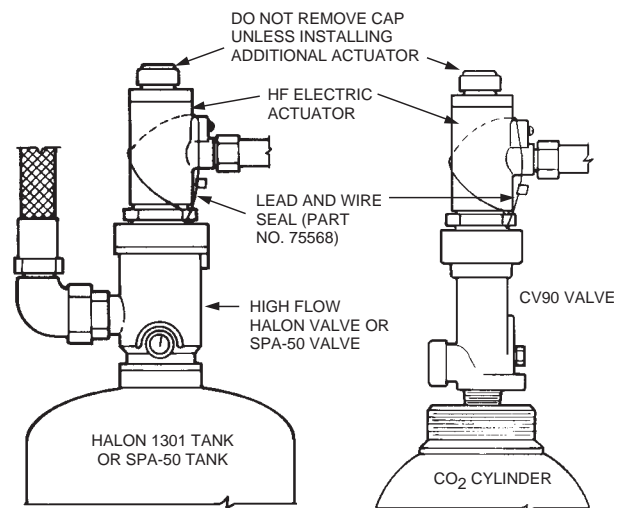

FIGURE 11
3. Thread the HF electric actuator onto top threads of Halon valve, CV90 CO₂ valve, or SPA-50 Dry Chemical Valve. (Do not exceed 10 ft. lb. (13.6 Nm) torque.) See Figure 11.